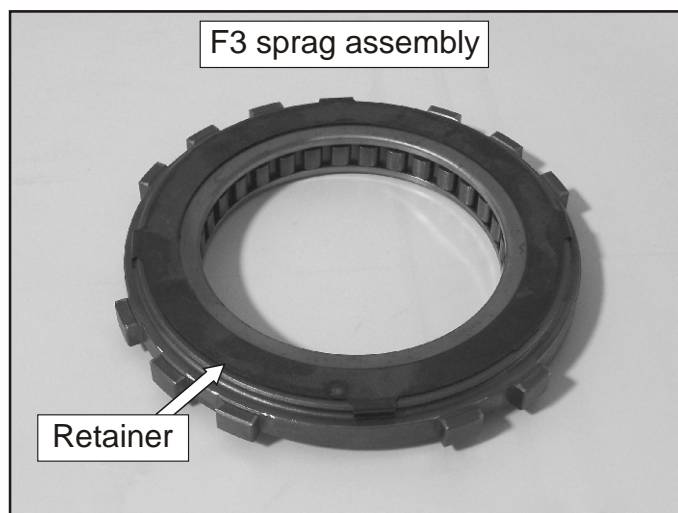

Figure 148
94. Remove the retainer from the top of the outer sprag race as shown in Figure 148.